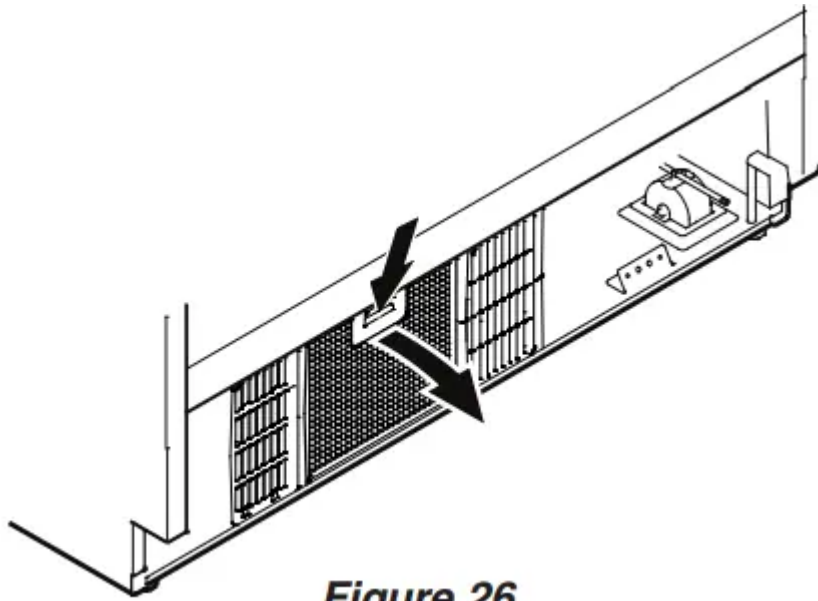

Figure 26
- Push down the button of the air filter, tilt to the front and remove - Figure 26.